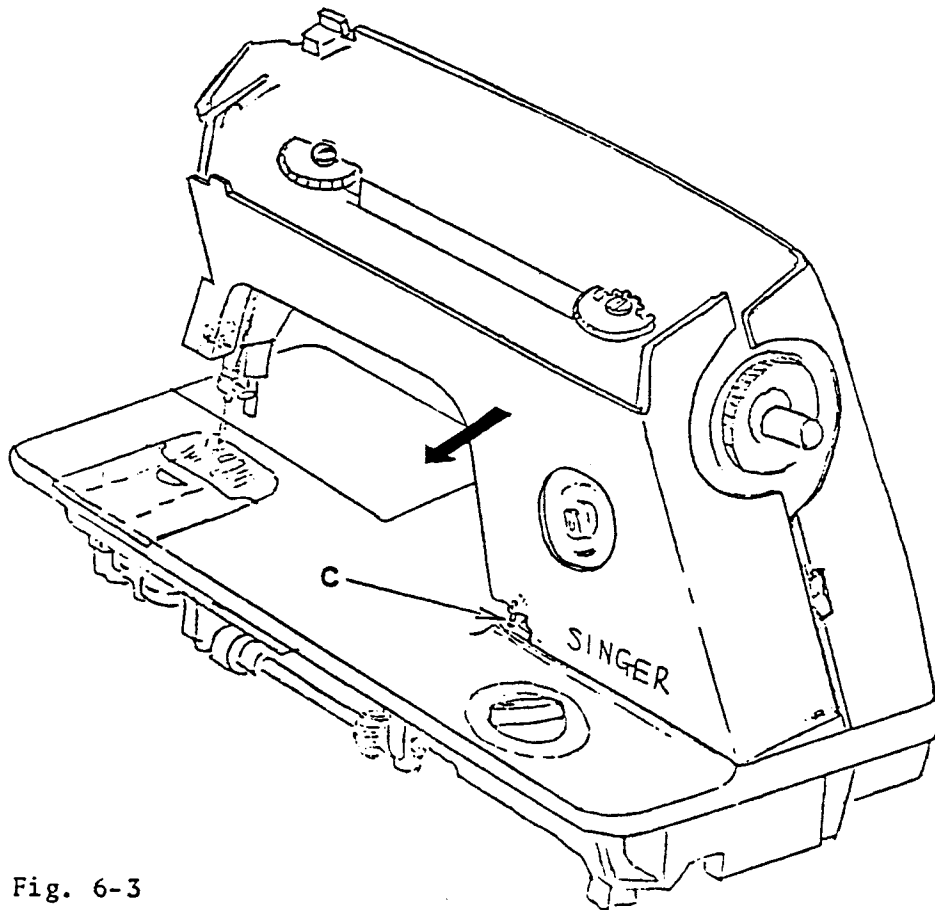

Fig. 6-3
- a. Place front cover with its guiding hole over guide pin (C) in bed. (Fig. 6-3).